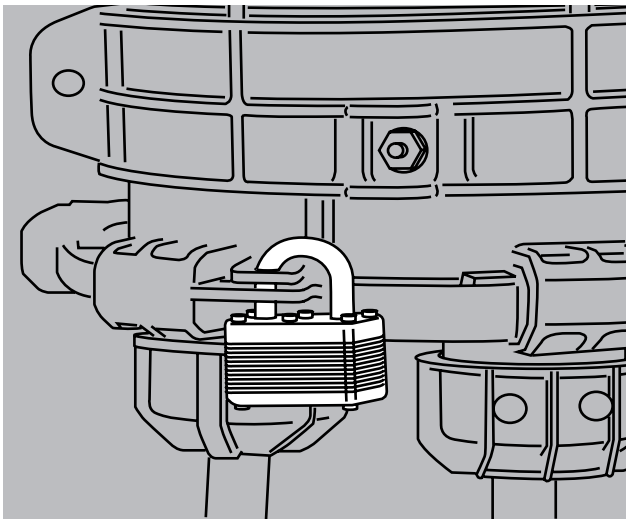

FIGURE 29
29. A locking mechanism (not supplied) can be fitted to restrict FibreGuard Closure access. (Figure 29)